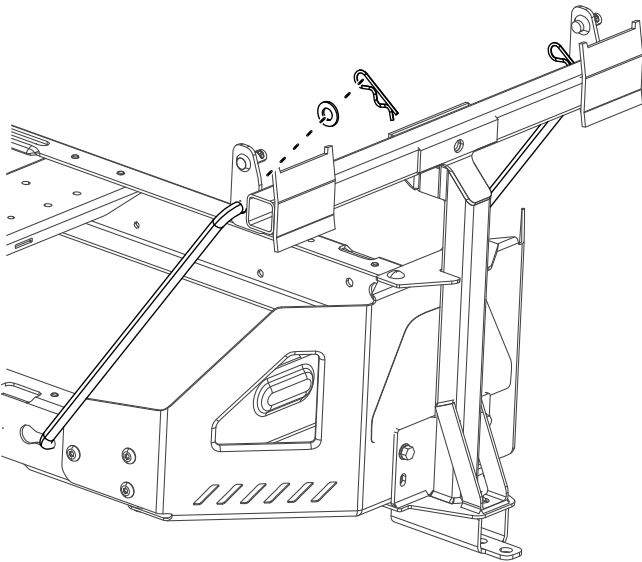

Figure 8
4. Install the bent, flared end of a rod into the keyed slot in the left side of the machine frame, and move the rod rearward to seat it in the frame (Figure 8).
5. Insert the bent ends of the rods into the attachment mount as shown in Figure 8 and secure the end of each rod with a washer and hairpin cotter.
2. Install the pivot brackets onto the pivot frame (Figure 8).